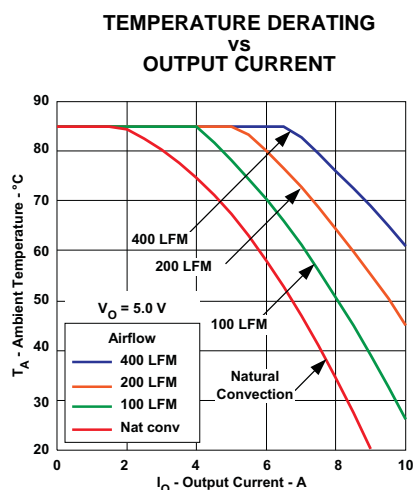
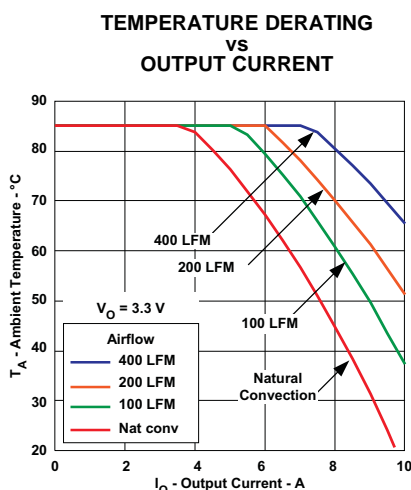
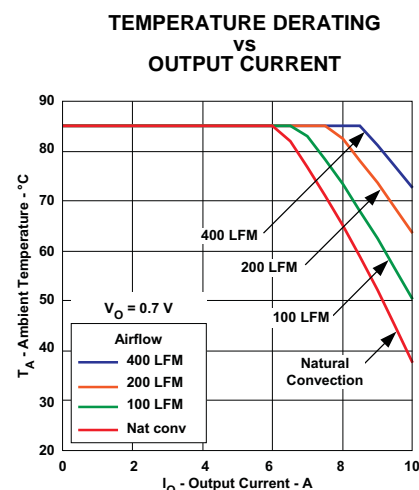

Figure 4.
Figure 5.
Figure 6.
- (2) The temperature derating curves represent the conditions at which internal components are at or below the manufacturer's maximum operating temperatures. Derating limits apply to modules soldered directly to a 100 mm × 100 mm double-sided PCB with 1 oz. copper. Applies to Figure 4, Figure 5, Figure 6.